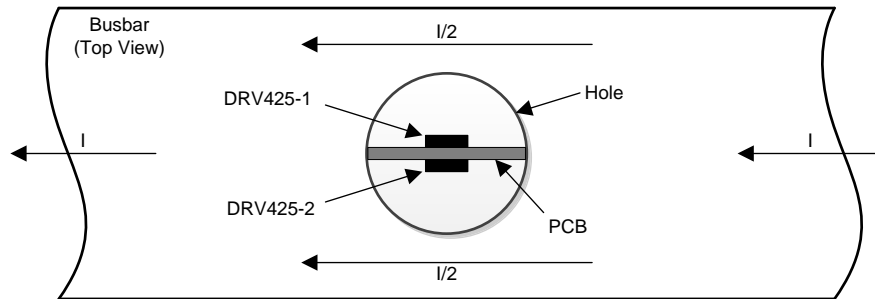
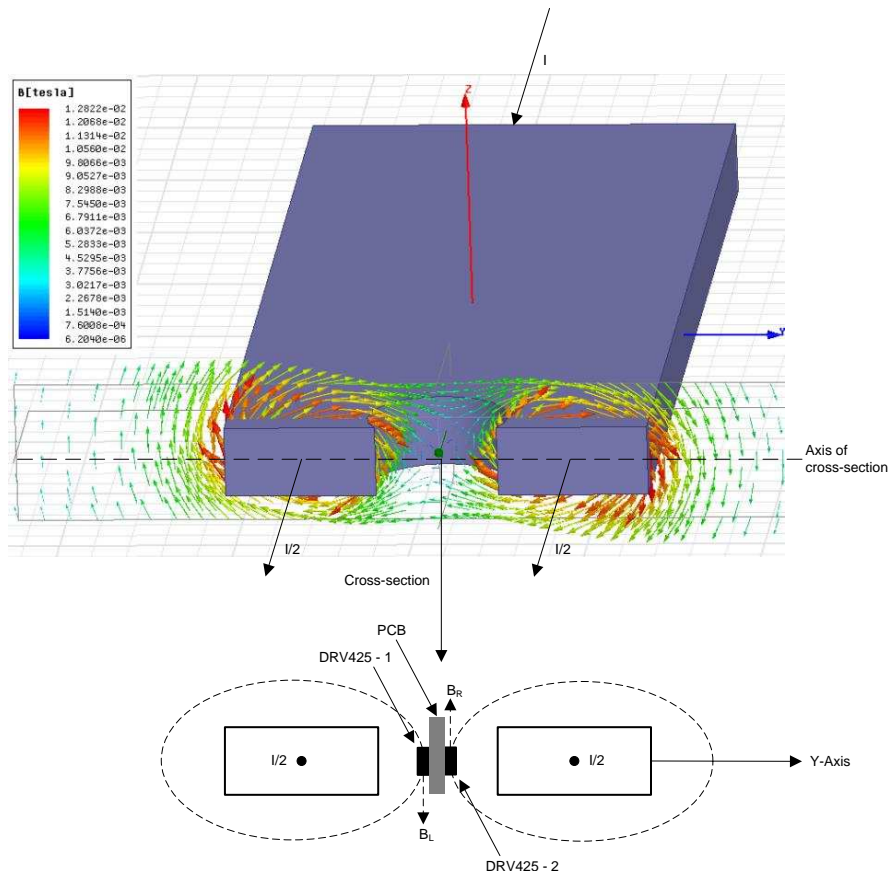

Figure 71. DRV425-Based Busbar Current Sensing
Figure 72. Magnetic Field Distribution Inside a Busbar Hole
Figure 71 shows an alternative approach with two DRV425 devices. If a hole is drilled in the middle of the busbar, the current is split in two equal parts that generate magnetic field gradients with opposite directions inside the hole. These magnetic fields are termed  $B_R$  and  $B_L$  in Figure 72. The opposite fields cancel each other out in the middle of the hole. The high sensitivity and linearity of two DRV425 devices positioned at the same distance from the middle of the hole allow the small opposite fields to be sensed and the current measured with high-accuracy levels. The differential measurement rejects outside fields that generate a common-mode error that is subtracted at the output.
2. Apply current through the busbar and move the PCB along the y-axis in the busbar hole, as shown in Figure 72. The PCB is in the center of the hole if  $V_{CM} = V_{OFFSET}$ .